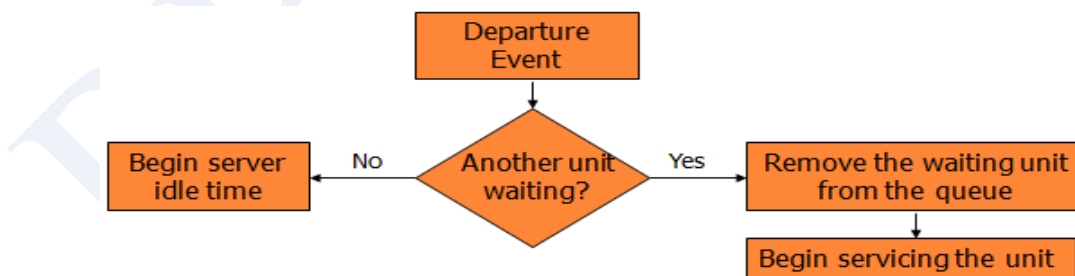

Fig. 2.2 Service-just-completed flow diagram
- If a unit has just completed service, the simulation proceeds in the manner shown in the flow diagram of Figure 2.2.